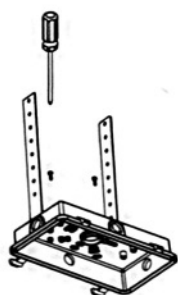

Figure 3-5
5. Fix the lower bracket on the driver box cover; Figure 3-5